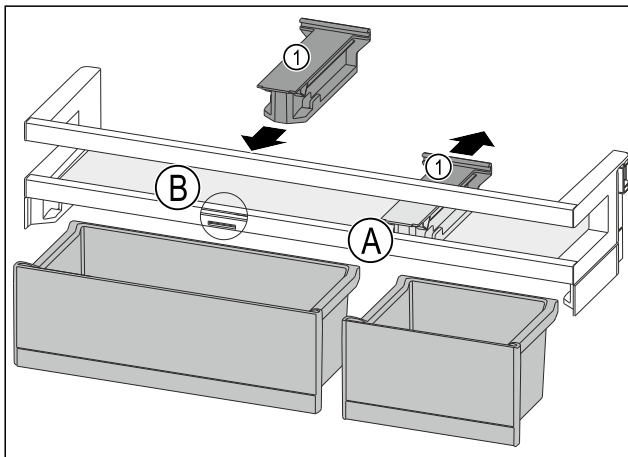

Fig. 187
- ▶ Take off the holding part Fig. 187 (1) in position Fig. 187 (A) backwards.
- ▶ Insert the holding part Fig. 187 (1) in position Fig. 187 (B).